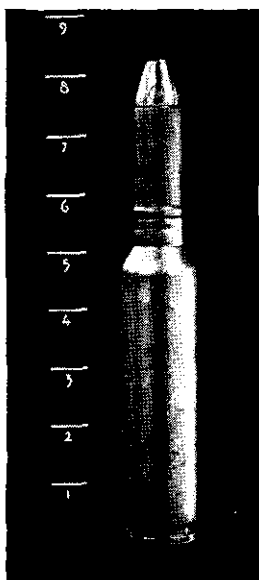

Figure 113.—20-mm high-explosive round for the Model 98 (1938) antiaircraft-antitank machine cannon.
(1) The high-explosive ammunition has an abnormally large brass shell case, and a black projectile body (figs. 113 and 114). On the shell body are painted a green and yellow band together around its middle, and a red band just below the bourrelet.